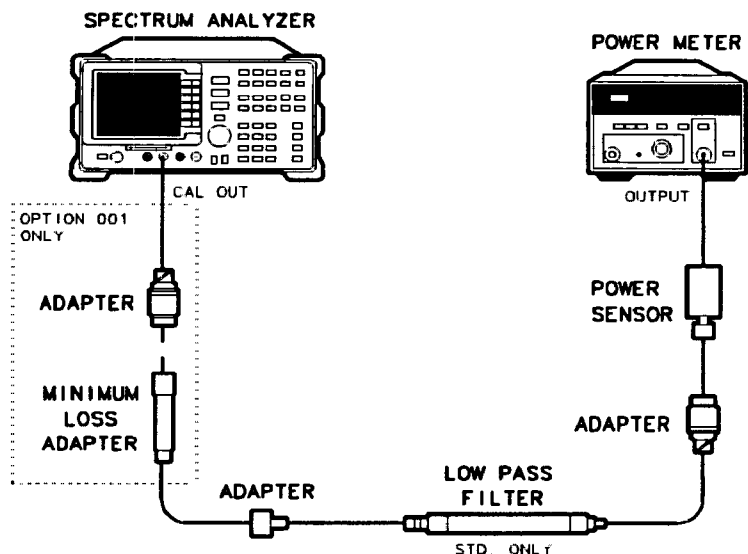

Figure 3-4. Calibrator Amplitude Accuracy Test Setup
2. Zero and calibrate the power meter and power sensor with the low-pass filter. Enter the power sensor's 300 MHz Cal Factor into the power meter. See Figure 3-4.